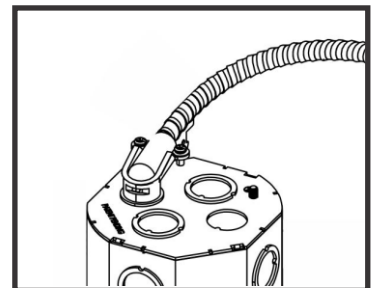

Figure 3
Step 4. Secure the conduit fitting onto the open knockout & bring in the supply wires. Use the supplied ground screw & cup washer to connect the ground wire to the body of the outlet box (Fig. 3).